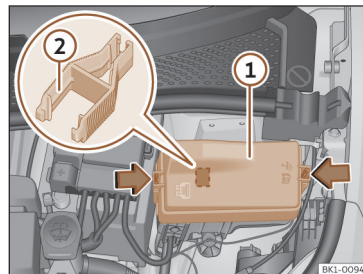

Fig. 187 In the front compartment: fuse box cover.
- Press the locking tabs to unlock the fuse box cover >>> **Fig. 187**.